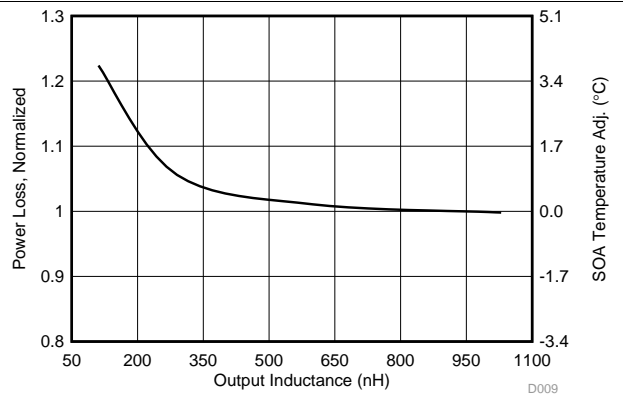

Figure 8. Normalized Power Loss vs Output Inductance
- Normalized power loss for output inductor ≈ 1.01 (Figure 8)
- SOA adjustment for output inductor ≈ 0.18°C (Figure 8)